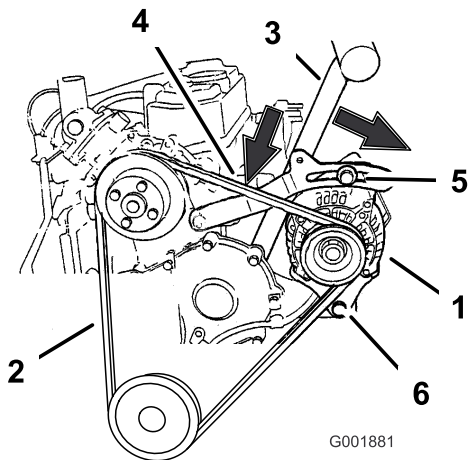

Figure 67
6. Loosen the two bolts holding the alternator (Figure 67).
7. Remove the belt from the pulleys and alternator (Figure 67).
8. Install a new belt around the pulleys and the alternator (Figure 67).
1. Place a handle between the alternator and cylinder block (Figure 67).
2. Adjust the alternator to the outside until there is 3/8 to 1/2 inch (10 to 13 mm) deflections in the belt between the engine and the alternator (Figure 67).
- If the deflection is correct, torque the upper bolt to 170 in-lb (19 N-m) and the bottom bolt to 45 ft-lb (61 N-m) (Figure 67).